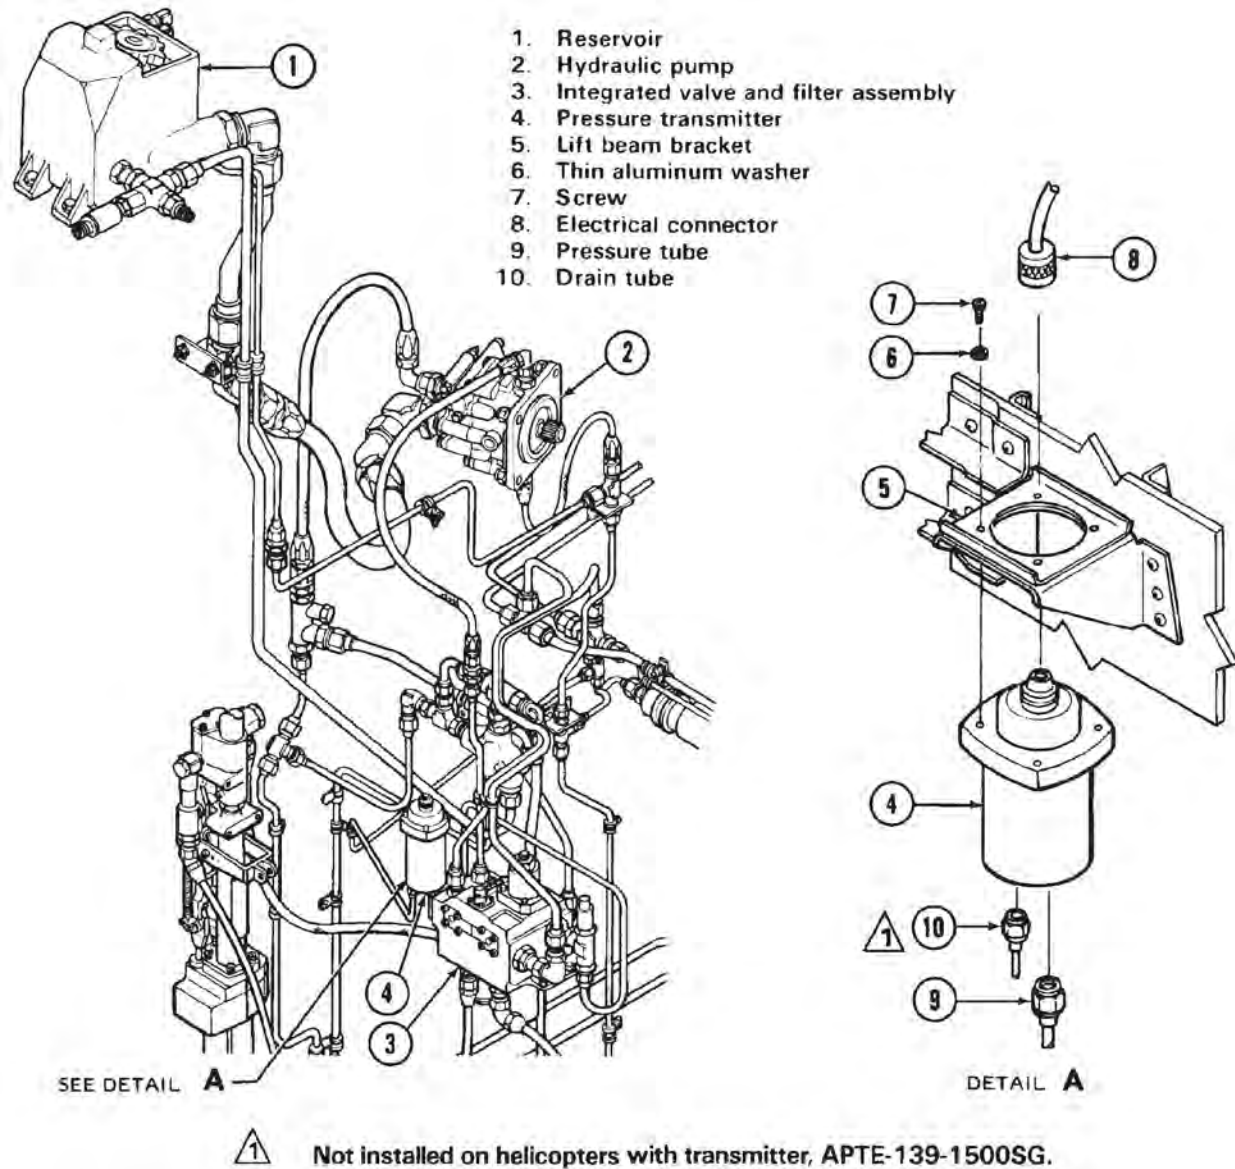

Figure 29-6. Pressure Transmitter
Hydraulic system No. 1 (Figure 29-6) and hydraulic system No. 2 (Figure 29-3) have pressure transmitters installed in the compartment below the transmission.
29.3.7.1.2 Disconnect electrical connector (8, Figure 29-6).
29.3.7.3.1 Place pressure transmitter (4, Figure 29-6) into lift beam bracket (5) and secure with screws (7) and thin aluminum washers (6).
29.3.8.3.9 Connect control tube (16, Figure 29-6) and spring (14) during rigging procedures (Chapter 67).